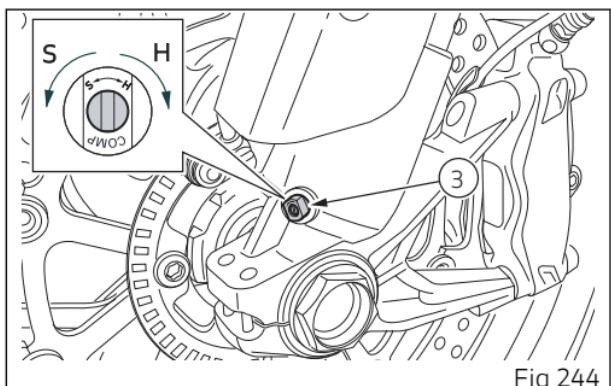

Fig 244
- 3) for compression damping (Fig 244).